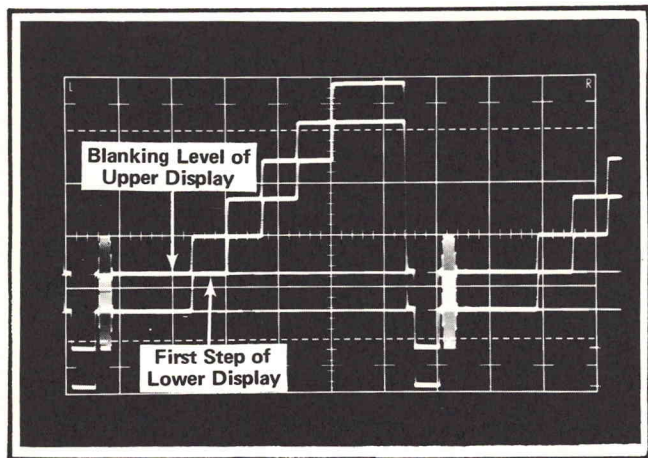

Fig. 5-36. Typical display to check or adjust staircase amplitudes.
e. Observing the test oscilloscope display, rotate the 067-0596-00 calibration fixture V_2 Volts control until the first staircase level of the lower display aligns with the blanking level of the upper display as shown in Fig. 5-36.